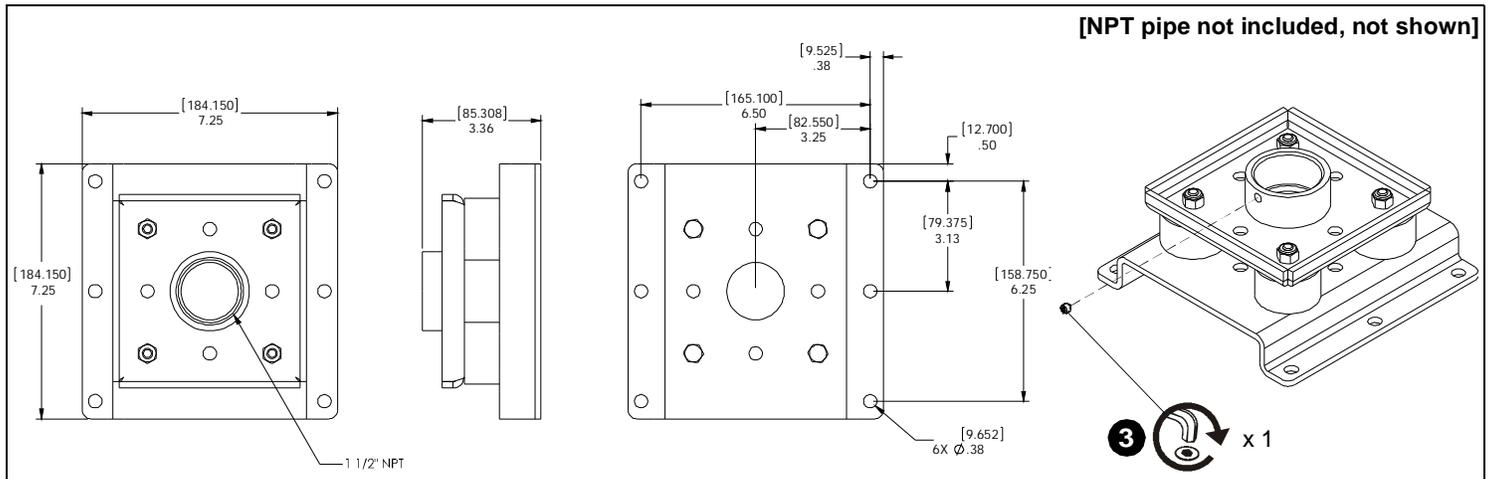

Figure 1
1. Secure ceiling plate to structural member. Bolt hole spacing is shown. (See Figure 1)
3. Install and securely tighten the 5/16-18 x 3/8" set screw. (See Figure 1)